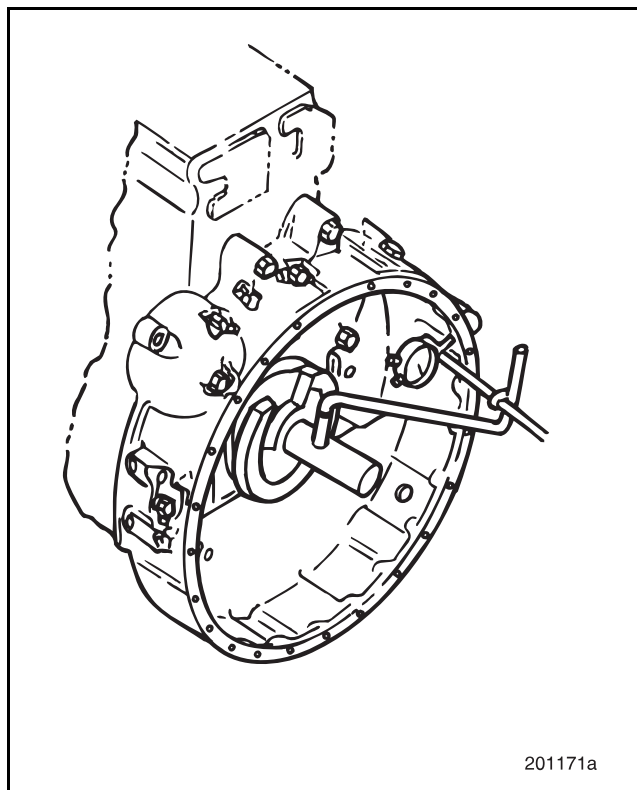

Figure 6-32 — Flywheel Housing Runout Check with Dial Indicator (PT5035) and Z adapter (PT5035-1)
- Runout checked with a dial indicator mounted on the crankshaft rear flange or flywheel: 0.020 inch (0.508 mm) TIR maximum. This way, the runout may appear to be excessive due to crankshaft movement within bearings and other variables. Refer to Figure 6-32.